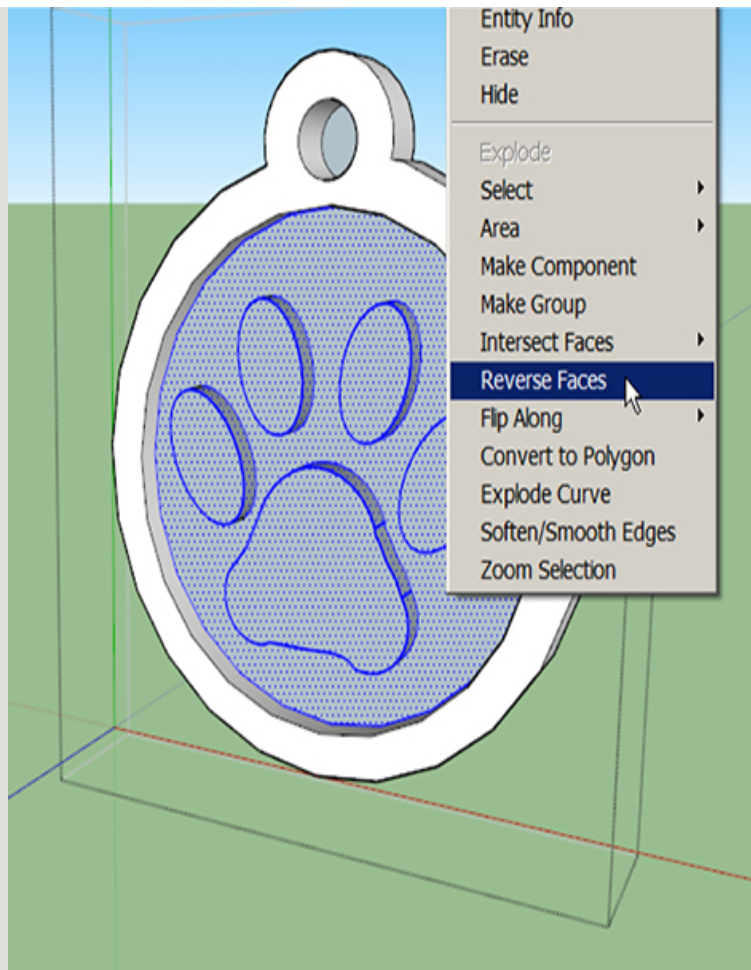

Figure 3-70 Select the face, right-click and choose Reverse Faces.
- 10.** Reverse the faces, if needed (Figure 3-70).